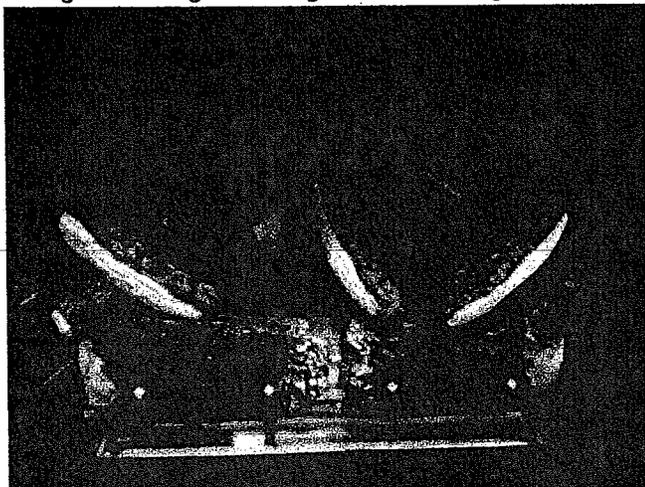

Figure 8.13 Place Right Center Log
- Place the top log on the indentations of the right front log and the right rear log as shown in Figure 8.13.